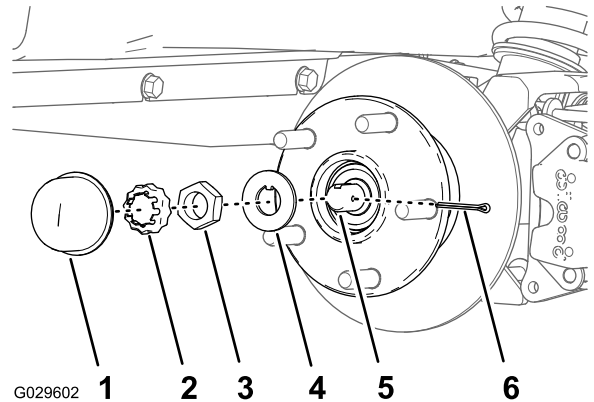
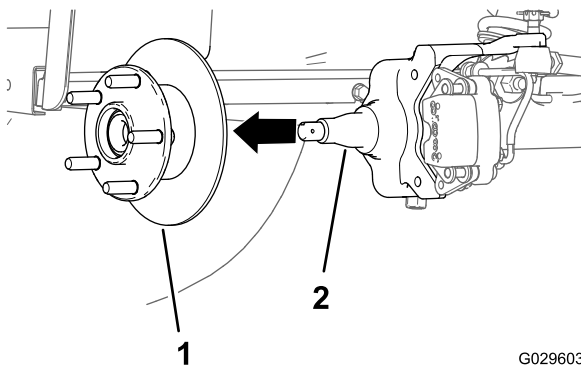

Figure 30
Figure 31
4. Remove the dust cap from the hub (Figure 30).
5. Remove the cotter pin and nut retainer from the spindle and spindle nut (Figure 30).
6. Remove the spindle nut from the spindle, and separate the hub and rotor assembly from the spindle (Figure 30 and Figure 31).